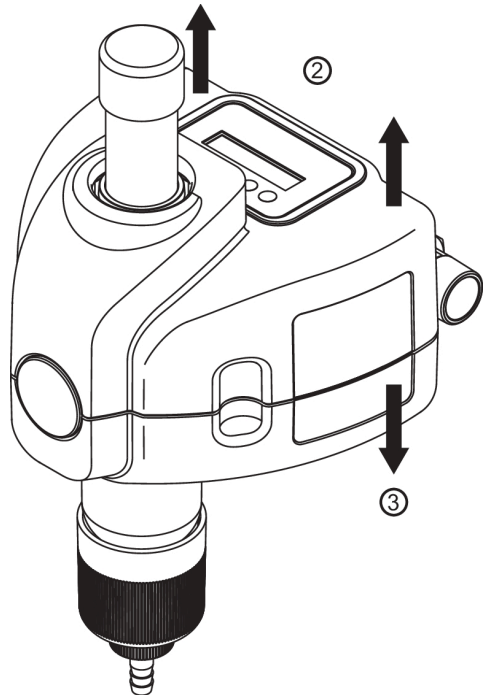

Fig. 9: Removing the casing
2. Take off the upper cover in an upwards direction (see Figure 9).
3. Push the lower cover downwards (see Figure 9).